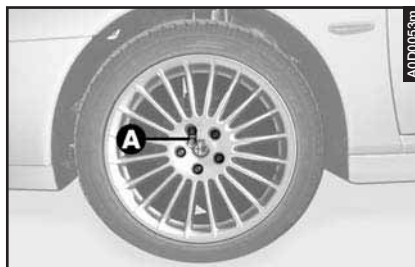

fig. 19
- Remove the centering pin (**A-fig. 19**) and screw the last fastening bolt.